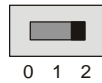

Figure 2-23
- ✓ If you have a Board of Education, make sure to set the 3-position power switch to position-2 as shown in Figure 2-23.